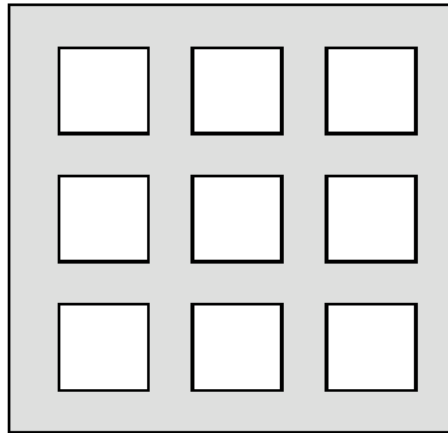

Figure 7 Solder paste application on exposed pad
3. For the PCB thermal pad, solder paste should be printed on the PCB by designing a stencil with an array of smaller openings that sum to 50% of the QFN exposed pad area. Solder paste should be applied through an array of squares (or circles) as shown in Figure 7.